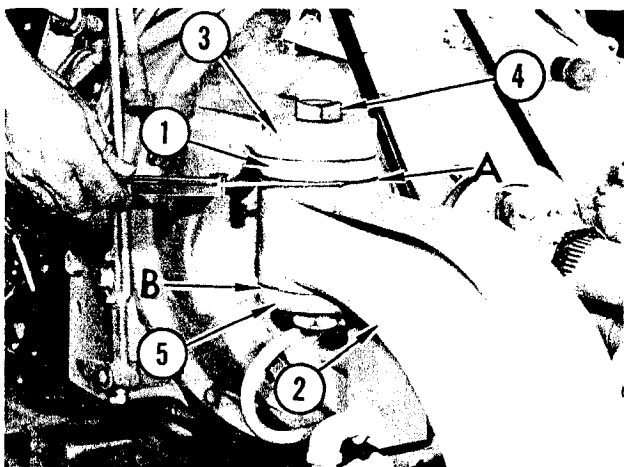

FIGURE 118. ENGINE MOUNTS
3. Refer to Figure 118 to install and adjust front engine mounts (flywheel end). Install top rubber bonded washers and shims (1) between engine support (2) and engine mount-